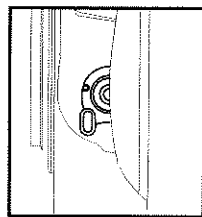
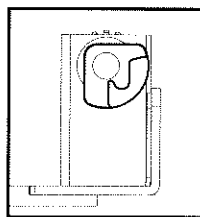

Fig.6
Fig.7
2. Align camera focus mode knob (Fig. 6) and quick shoe knob (Fig. 7), and then fasten the quick shoe screw to camera's tripod socket hole (Fig. 8).